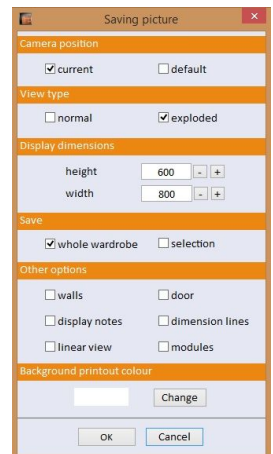

Fig. 39 - Illustration saving options
- **'Save picture'** - opens the **'Saving...'** window (Fig. 39), where you can change the settings of the saved image: including: